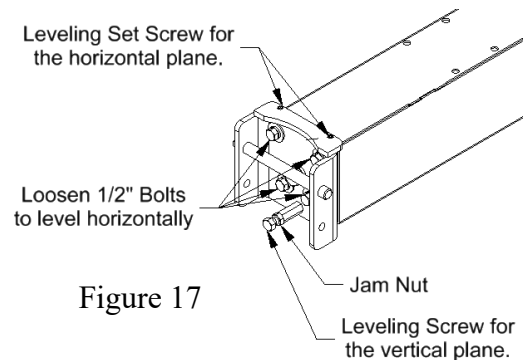

Figure 17
- To level the backboard in the horizontal plane, loosen the four $\frac{1}{2}$ " bolts and the one $\frac{3}{4}$ " bolt in the center of the Quick-Change Bracket attached to the boom. Refer to figure 17. Level the board horizontally using the Set Screws on top of the Boom Bracket and tighten all bolts securely.